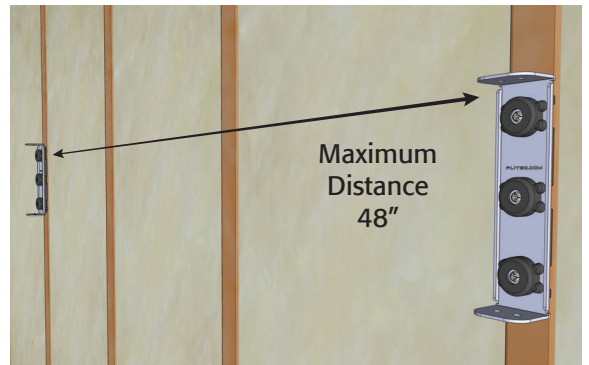

Figure 1
3. Attach **GenieClip Mount** to structure on either side of the mounting locations 48 inch (1.2 m) o.c. max using appropriate fasteners as listed below (**Fig.1**).